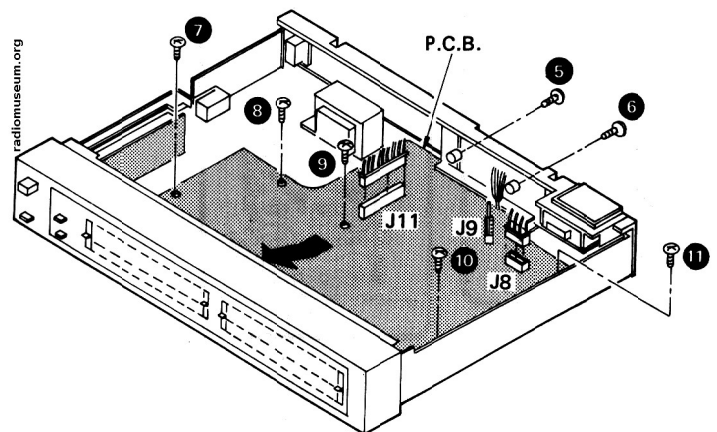

Fig. 2
3. Remove the rear terminal setscrews (Fig. 2: ⑤, ⑥) and the 5 setscrews (Fig. 2: ⑦ ~ ⑪) of the P.C.B.